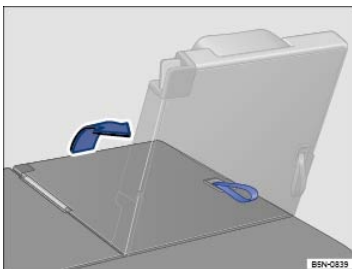

Fig. 81 In the third row: Strap to fold the third row seat backrest back into place.
- Pull the strap on the backrest ⇒ *Fig. 81* to fold the backrest into place.